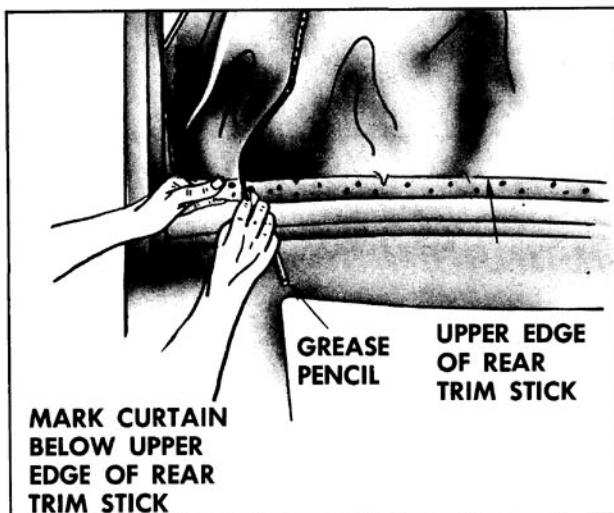

Fig. 16-433 Trim Stick Attachment
9. Detach folding top compartment bag from rear seat back panel, thus exposing rear quarter and rear trim stick attaching bolts. (Fig. 16-433) Forward end of top compartment bag may be tied or wired to center roof bow to provide ready access to attaching bolts.
10. Remove attaching bolts securing rear quarter trim sticks to rear quarter inner panel. (Fig. 16-433)